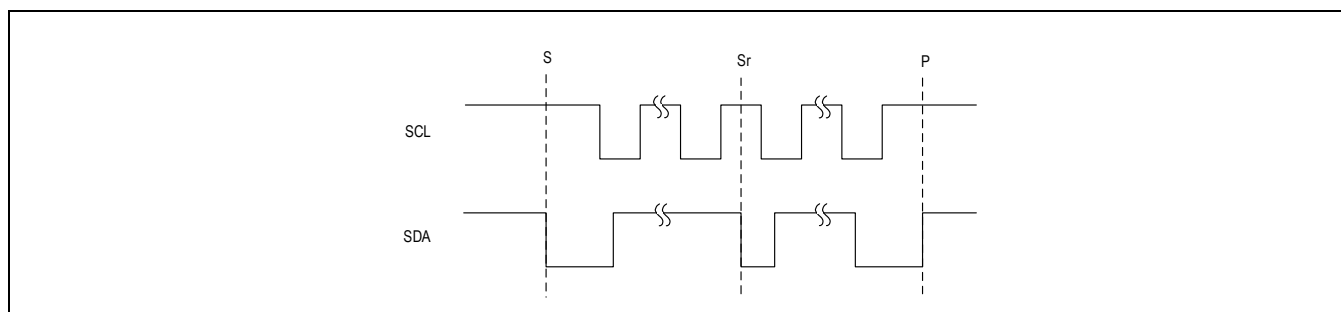

Figure 15. I²C START, STOP, and REPEATED START Conditions
When writing to the MAX20362 using I²C, the controller sends a START condition (S) followed by the MAX20362 I²C write address. After the address, the controller sends the register address of the register to be programmed. The controller then ends communication by issuing a STOP condition (P) to relinquish control of the bus or a REPEATED START condition (Sr) to communicate to another I²C peripheral. See Figure 15.